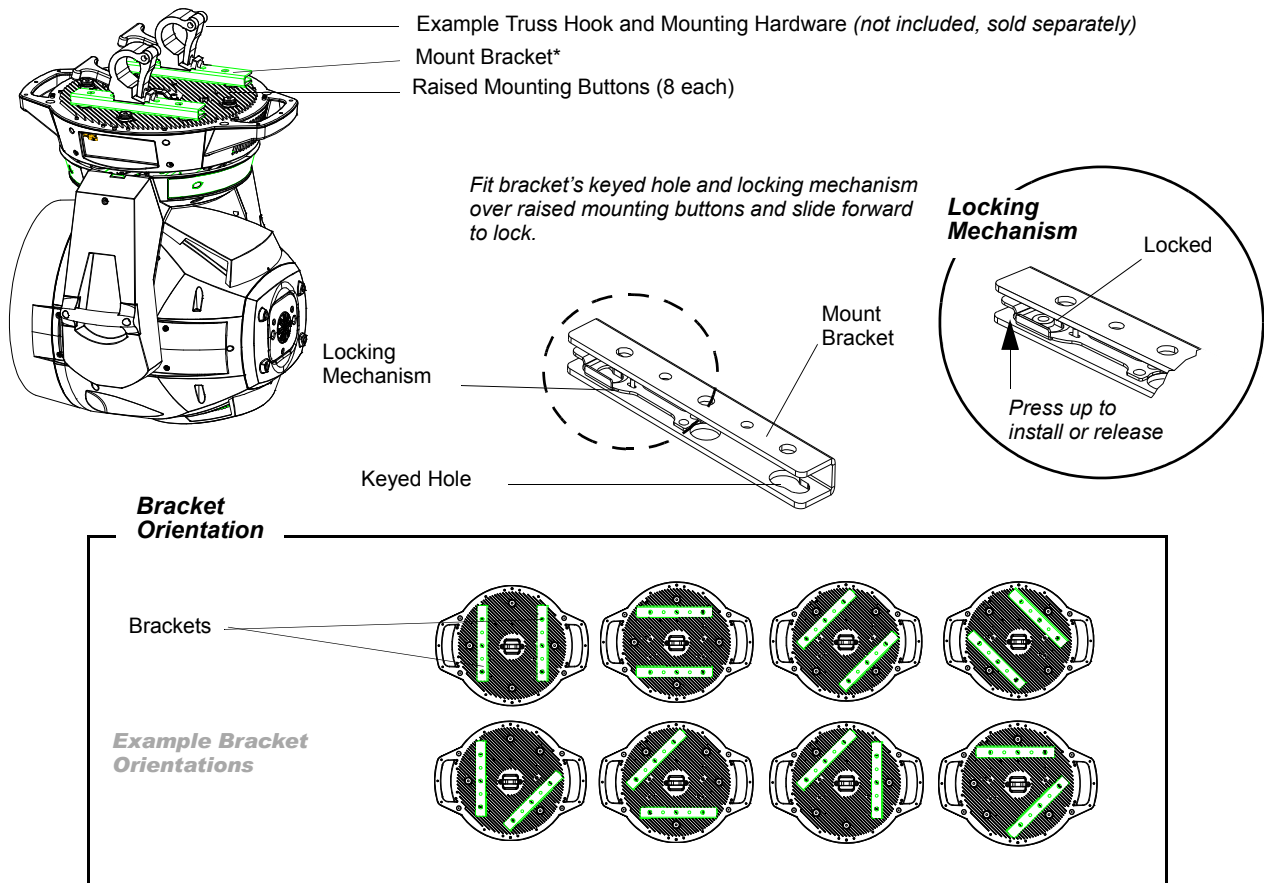

Figure 2-9: Installing Brackets on Luminaire Enclosure
- Step 2. Determine required configuration of bracket installation. Brackets may be installed in many different orientations as shown in Figure 2-9 on page 25.